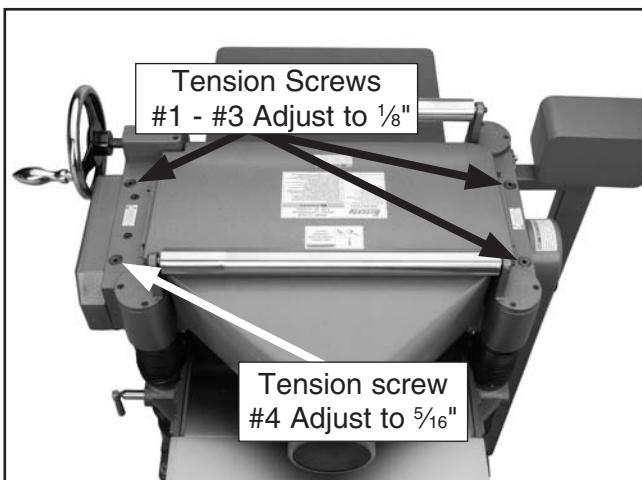

Figure 37. Tension screw locations and adjustments.
1. Locate the four adjustment screws located on the top of the planer, as shown in **Figure 37**.